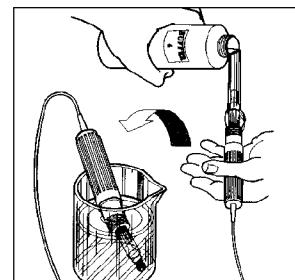

FIGURE 17
4. Rinse sensor in pH 4 solution (low cal), then place sensor into a clean container and pour enough pH 4 buffer solution to cover tip (approximately 1" depth) (see fig. 17).
2. Rinse ORP sensor with 100 mV, low buffer solution, then place sensor in a clean container. Pour enough low buffer solution into the container to cover the sensor’s tip (see fig. 17).
7. Rinse ORP sensor with 465 mV, high buffer solution, then place sensor in a clean container. Pour enough high buffer solution into the container to cover the sensor’s tip (see fig. 17).